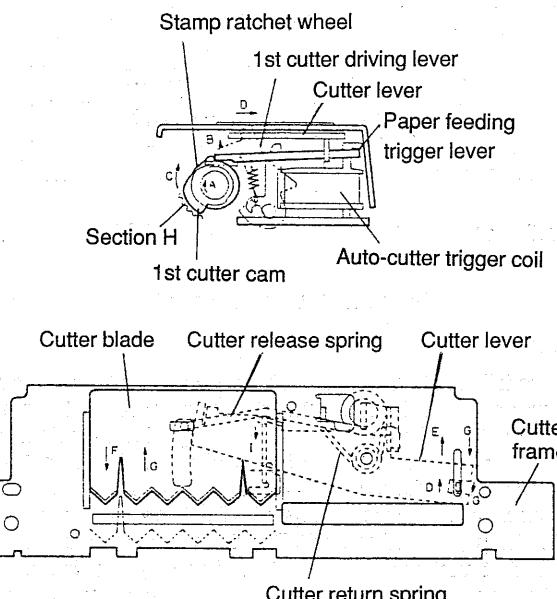

Figure 1.24 Full-cut operation
① When the paper feeding gear rotates as the result of motion transmitted via the row of gears (see section 1.4.1 on the Transmission Mechanism), the paper feeding shaft rotates in direction \rightarrow A (see Figure 1.24). Because there is no current to the auto-cutter coil at this time, the paper feeding trigger lever (trigger lever for auto-cutter) and the stamp ratchet wheel (ratchet wheel for auto-cutter) remain locked together. As a result, the stamp ratchet wheel maintains its present state (non-rotating) due to the action of the auto-cutter clutch spring, and only the paper feeding shaft rotates in direction \rightarrow A.
During auto-cutting, a current is sent to the auto-cutter trigger coil. When a current is sent, the paper feeding trigger lever is attracted by the auto-cutter trigger coil (direction \rightarrow B, see Figure 1.24), thus releasing contact with the stamp ratchet wheel. As a result of action by the auto-cutter clutch spring, the stamp ratchet wheel and the 1st cutter cam start to rotate simultaneously in direction \rightarrow C (see Figure 1.24) in linked motion with the paper feeding shaft. When the 1st cutter cam rotates, the cam section causes the 1st cutter driving lever to move in direction \rightarrow D (see Figure 1.24). Because the 1st cutter driving lever and the cutter lever are joined, the cutter lever moves in direction \rightarrow E. Due to the motion of the cutter lever, the cutter blade joined with the cutter lever moves in direction \rightarrow F and cuts the paper (see Figure 1.24).
② The 1st cutter cam continues to rotate so that the cam section passes the 1st cutter driving lever. At this point, the 1st cutter driving lever, cutter lever and cutter blade return due to the spring force of the cutter return spring (direction \rightarrow G, see Figure 1.24). Moreover, when a load is operating that cannot be returned by means of the spring force of the cutter return spring, there is forced return of the 1st cutter driving lever and the 1st cutter cam. Since current to the auto-cutter trigger coil is stopped, the paper feeding trigger lever meshes again with the stamp ratchet wheel due to the spring force of the paper feeding trigger ratchet spring. The rotation of the 1st cutter cam and the stamp ratchet wheel stop and remain in a stand by state.